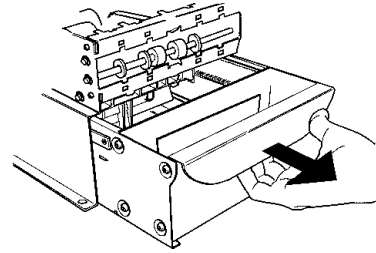

Figure 4-2. Removing a note tray from the dispensing mechanism.
3. To remove the note tray, grasp the tray handle and slide the tray out of the mechanism (See Figure 4-2).